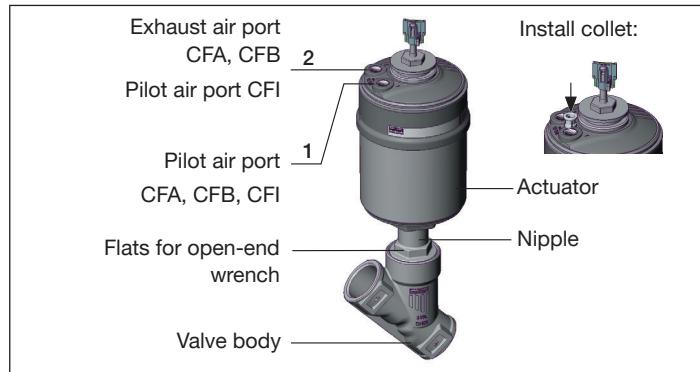

Fig. 3: Installation
- Control function A pressurize the pilot air port 1 (see “Fig. 3”) with compressed air (5 bar): valve opens.
→ Control function A pressurize the pilot air port 1 (see “Fig. 3”) with compressed air (5 bar): valve opens.